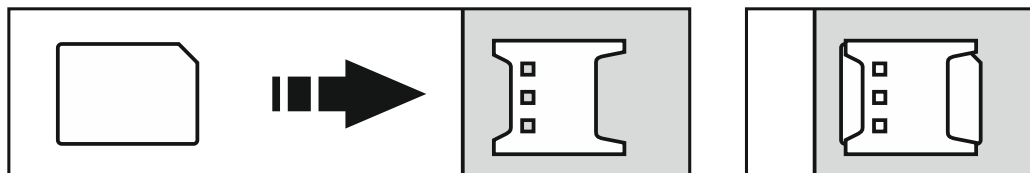

Fig. 6. Installing the nano-SIM card.
2. Insert the SIM card / cards into the socket / sockets (Fig. 6).